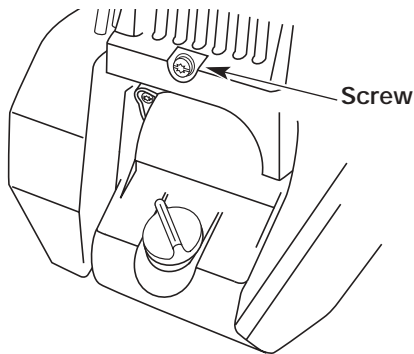

Figure 52
- Remove the screw behind the engine cover. See Figure 52.